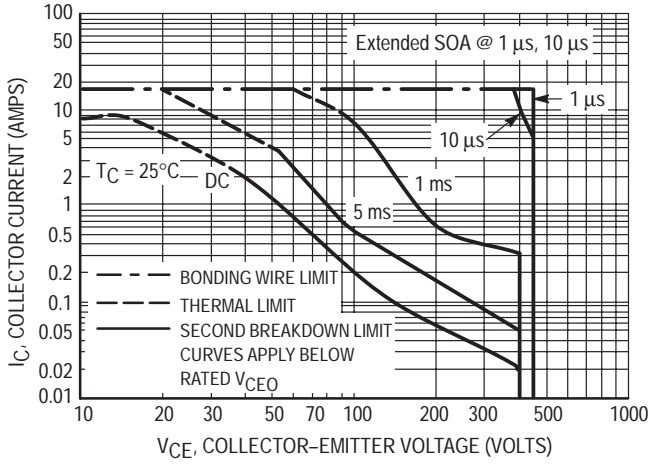
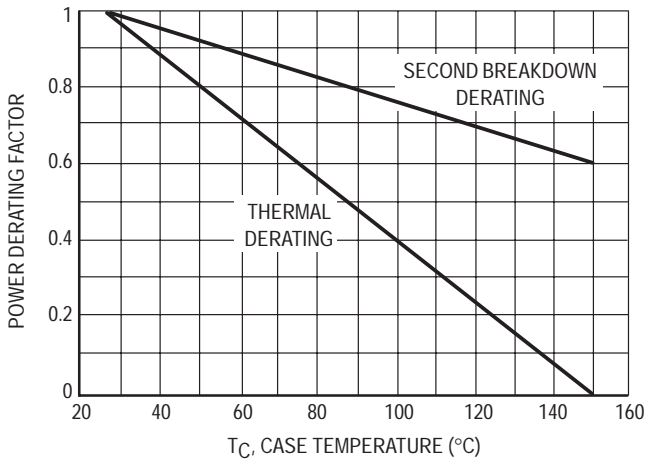

Figure 6. Maximum Forward Bias Safe Operating Area
Figure 8. Forward Bias Power Derating
The data of Figure 6 is based on  $T_C = 25^\circ\text{C}$ ;  $T_{J(pk)}$  is variable depending on power level. Second breakdown pulse limits are valid for duty cycles to 10% but must be derated when  $T_C \geq 25^\circ\text{C}$ . Second breakdown limitations do not derate the same as thermal limitations. Allowable current at the voltages shown on Figure 6 may be found at any case temperature by using the appropriate curve on Figure 8.
The sustaining or active region voltage requirements in switching applications occur during turn-on and turn-off. If the load contains a significant capacitive component, high current and voltage can exist simultaneously during turn-on and the pulsed forward bias SOA curves (Figure 6) are the proper design limits.
- (1) The device thermal limitations are not exceeded.
- (2) The turn-on time does not exceed 10  $\mu$ s (see standard pulsed forward SOA curves in Figure 6).